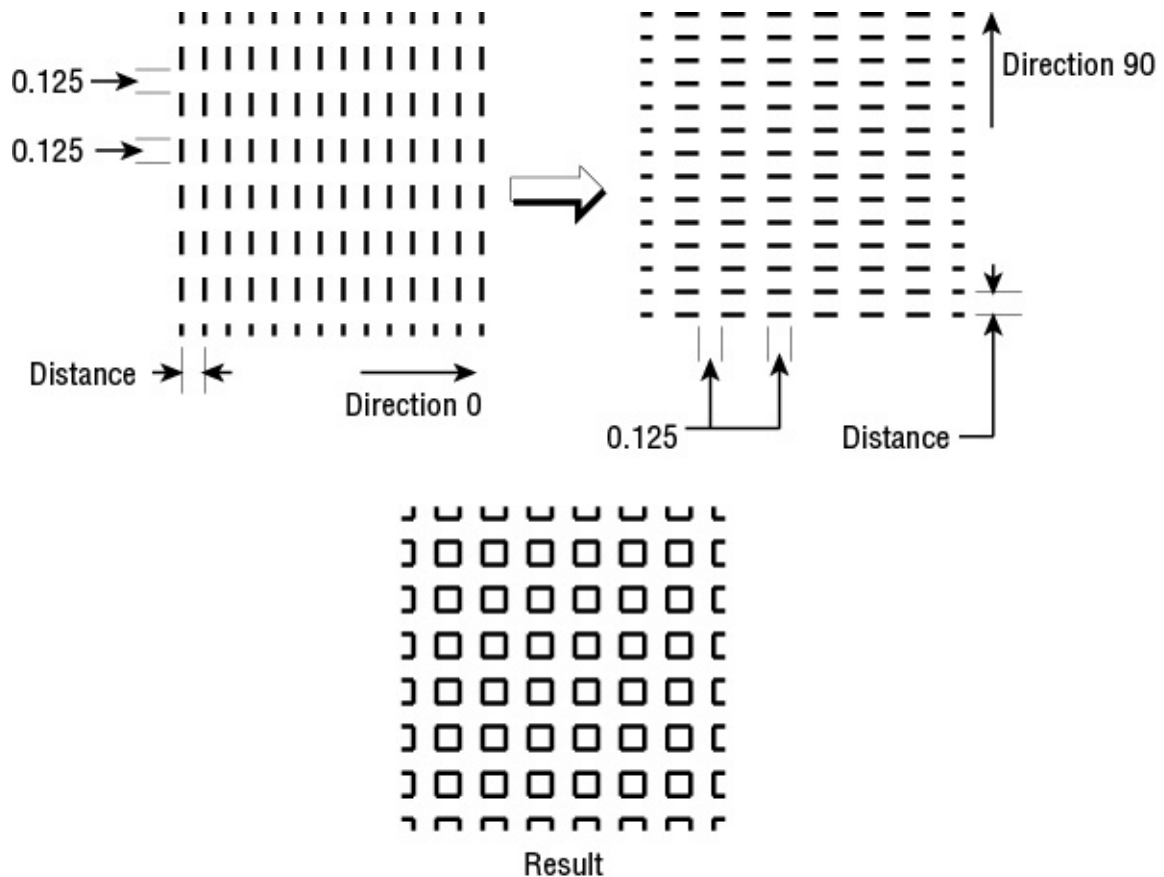
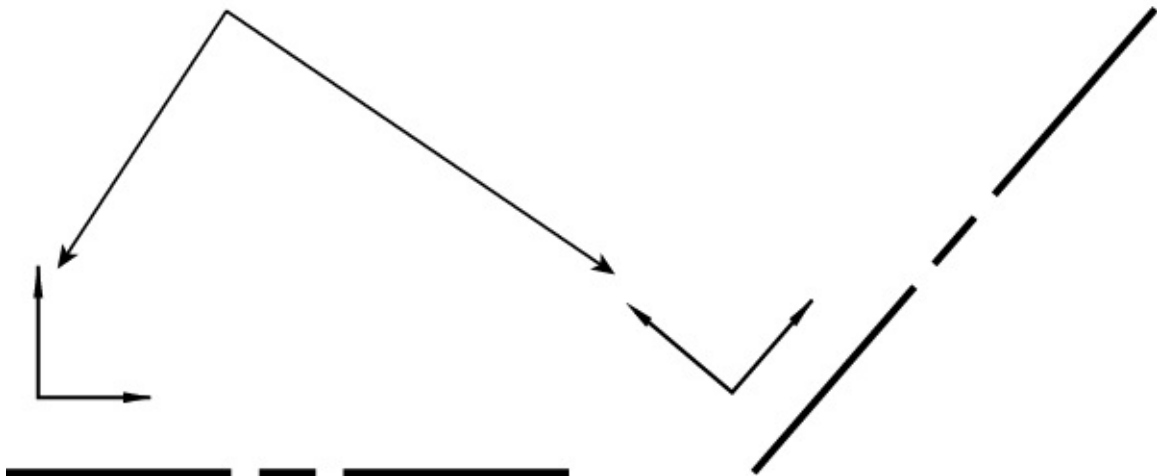

FIGURE 24.31 The distance and direction of duplication
FIGURE 24.32 How the direction of the line group copy is determined
- The next component is 0, .125. This determines the distance and direction for arraying the line, as illustrated in Figure 24.31. This value is like a relative coordinate indicating X and Y distances for a rectangular array. It isn't based on the drawing coordinates, but on a coordinate system relative to the orientation of the line. For a line oriented at a 0° angle, the code 0, .125 indicates a precisely vertical direction. For a line oriented at a 45° angle, the code 0, .125 represents a 135° direction. Remember that the very first number in the line definition determines the angle of the line. In this example, the duplication occurs 90° in relation to the line group, because the X value is 0. Figure 24.32 illustrates this point.